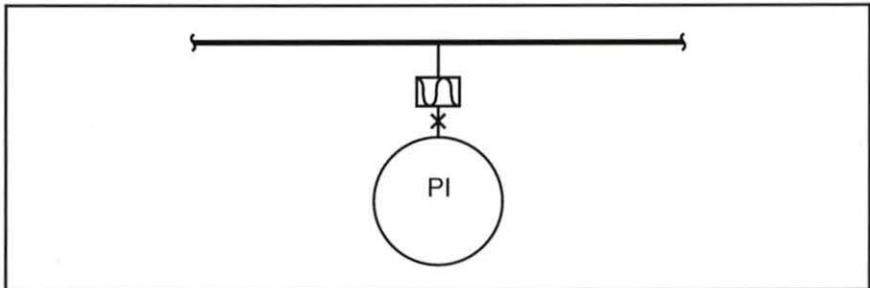

Figure 66. Flow Sensing Element Symbol
5. Determine what type of pressure sensing element symbol is shown in figure 66.